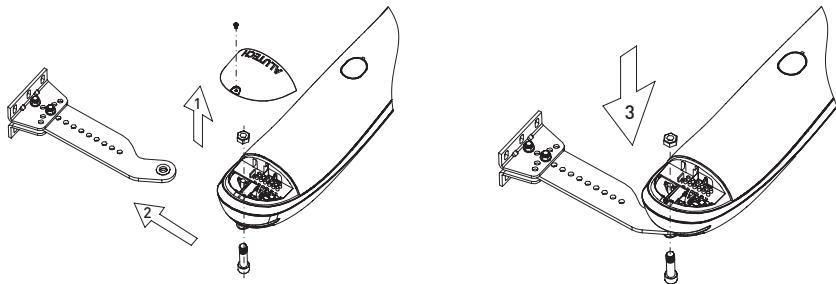
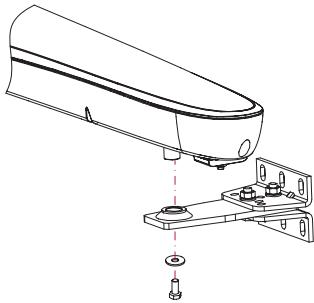

Figure 12. Mounting the drive on a rear fitting
Figure 13. Mounting the drive on a front fitting
- mount the drive on the rear (fig. 12) and front (fig. 13) fittings. Prior to mounting the drive on the front fitting, lubricate the fitting surface of its connector with grease. To mount the drive on the front fitting, release the drive (section '4.3. Manual release') and move the leaf manually.